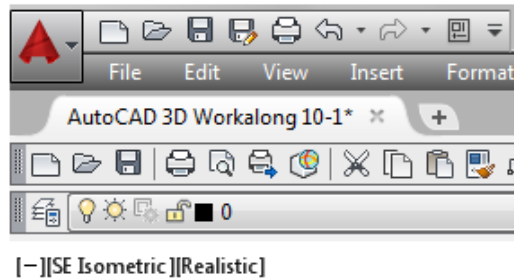

Figure Step 3A
Step 3 Step 2 will enable the display of the Viewport Controls menu located in the top left corner of the Graphic window. (Figure Step 3A, 3B, and 3C)